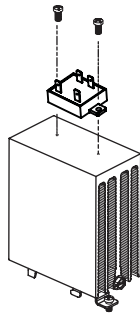

fig. 1 EZ Series SSR mounted on heat sink (A)
- EZ Series Relay mounting slots have a diameter of 0.2 in (5.0 mm). Two screws are needed (not included) to mount the SSR onto heat sink (See fig. 1).